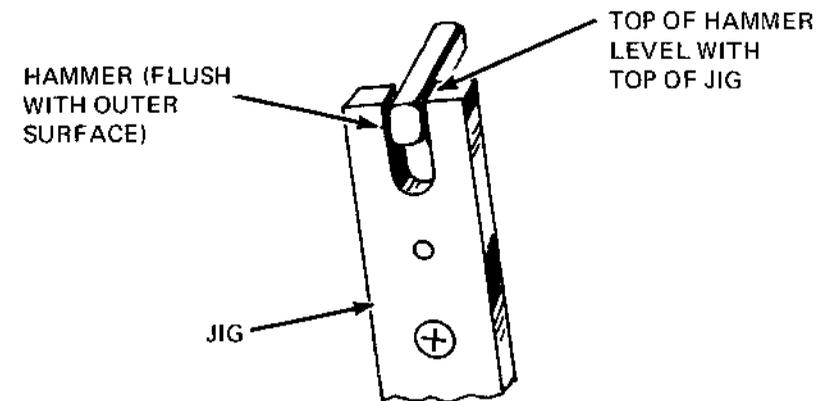

Figure 5-2 Hammer Head to Jig Slot Alignment
- Align the top and end of the hammer in the jig as shown in Figure 5-2, then tighten the holding screws B (both sides).
To make an added check, replace the print thimble with the hammer position jig while power is on. The hammer should align in the jig slot. Remove the jig before powering off the printer (see Figure 5-2).